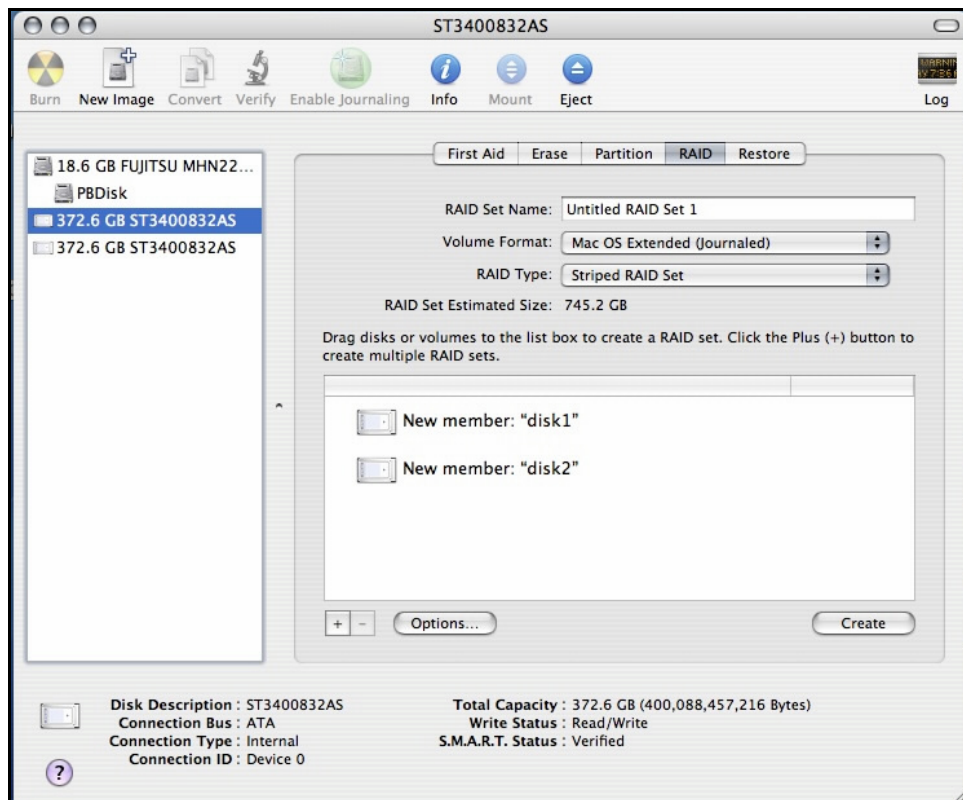

Figure 16: Example drives and options for a RAID volume
9. For *Volume Format*, the most common choice is “Mac OS Extended” (See Figure 16).